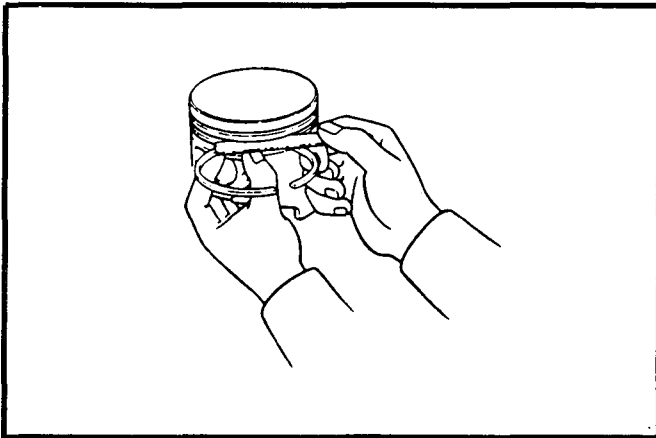

Figure 17.
16. Check the No.1 and No.2 ring side clearances. See Figure 17.